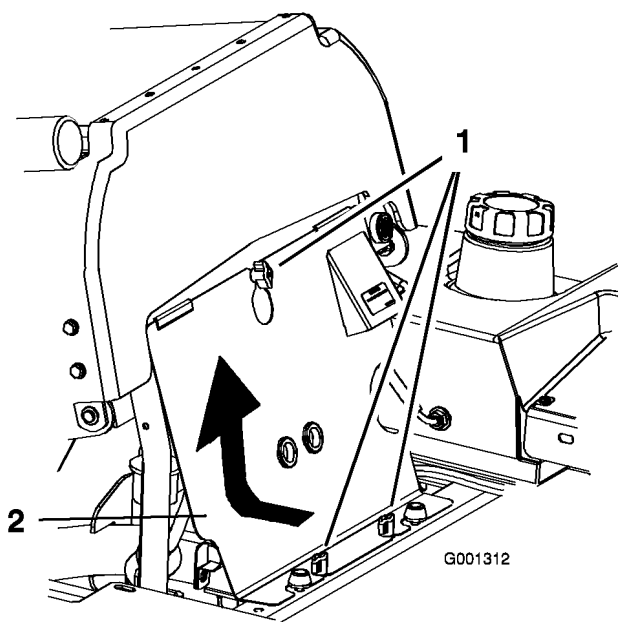

Figure 37
1. Tilt the seat forward and remove the front engine panel (Figure 37).